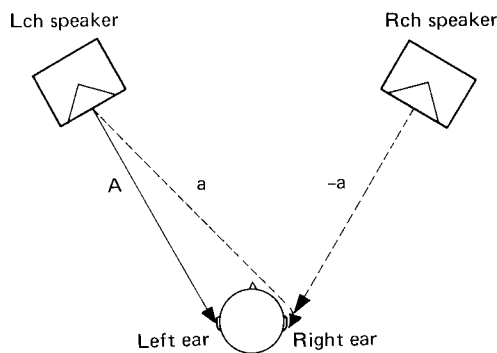

Fig. 1
In Fig. 1, (A) is the sound emitted from the left speaker and entering the left ear and (a) is the sound also emitted from the left speaker and entering the right ear with a slight delay. These two sounds differ in frequency response. If a signal corresponding to (a) and having an opposite phase, i.e. a signal of $(-a)$ could be emitted from the right speaker, the signal (a) would be cancelled out.